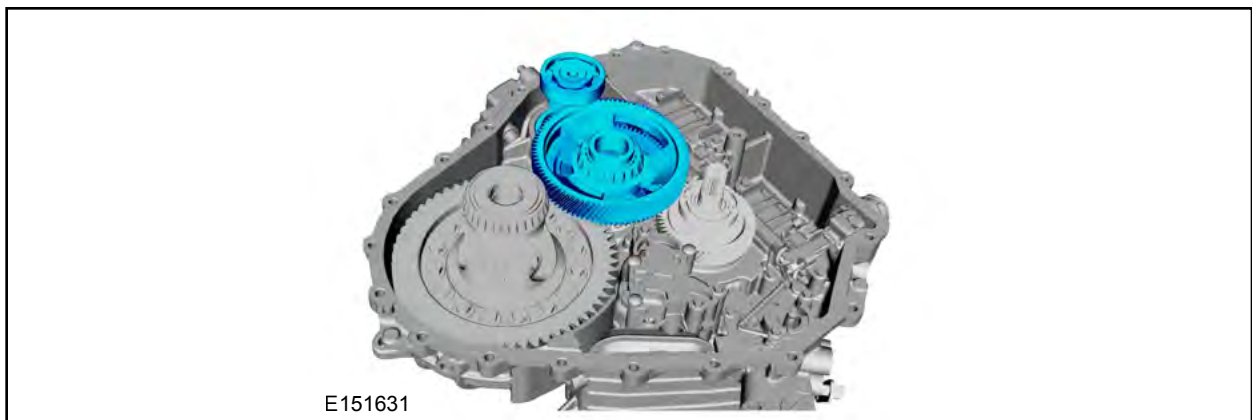

FIGURE 39
34. Install the *new* transfer shaft gear assembly and the traction motor drive gear assembly. See Figure 39.